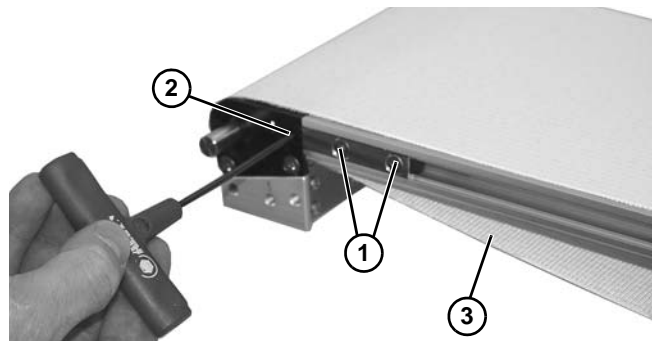

**Figure 36**
6. Disassemble components as shown (**Figure 36**).